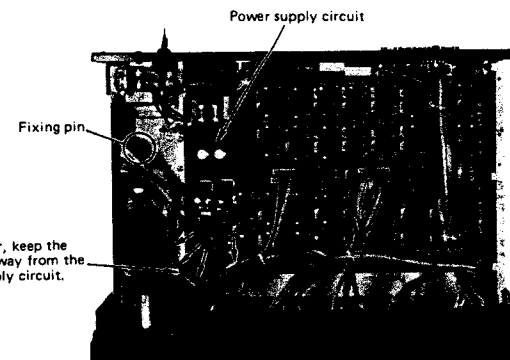

Fig. 8
3. Pull out the switch P.C.B. fixing pin [Fig. 8].
1. Make the wiring away from the power supply circuit as in Fig. 8.